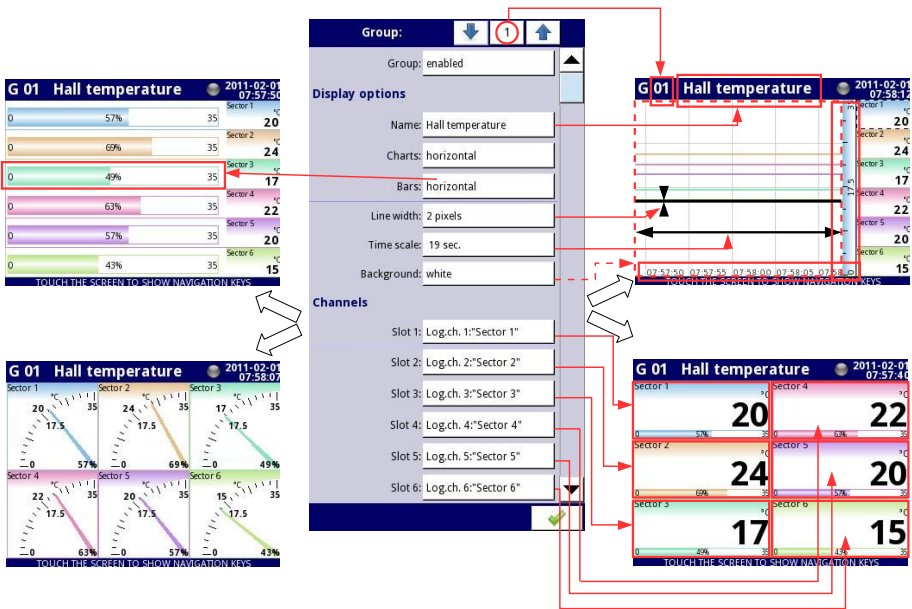
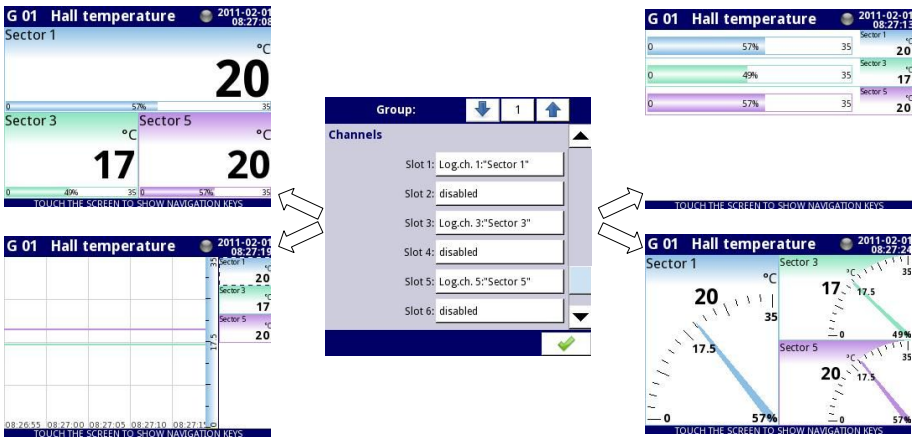

Fig. 7.138. Sample of **Group** parameters settings - all Slot set to **Logical channel**
Fig. 7.140. Sample of **Group** parameters settings - Slots set to **Logical channel** and set to **disabled**
- **Slot 1÷6** - in each slot the user can select an option (see Fig. 7.138÷Fig. 7.140):